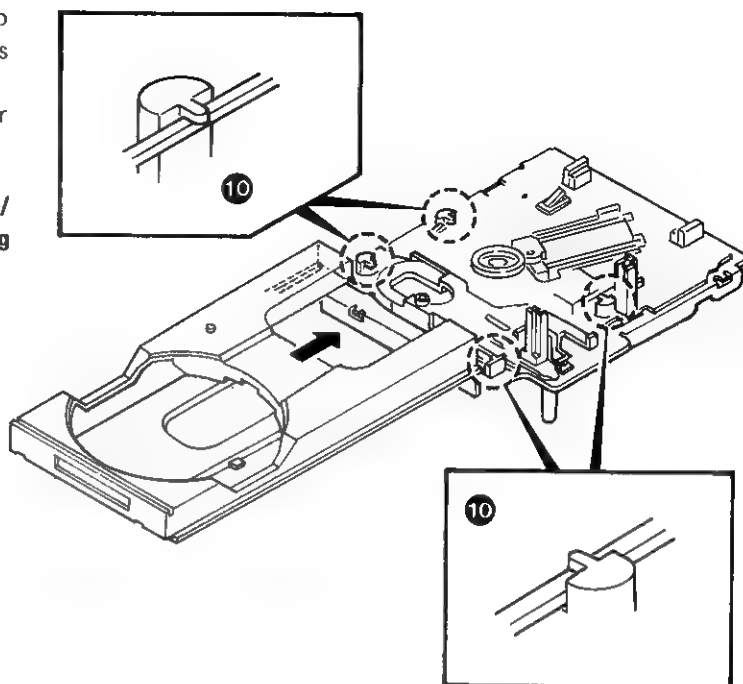

Fig. 4 Attaching the tray
- 1) Attach the collars firmly on both sides of the tray to the four section supporting and guiding the tray as shown in the Fig. 4.